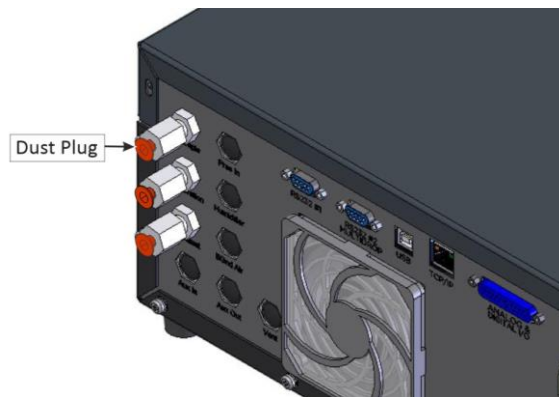

Figure 26 – Dust Plugs
5. Seal each pneumatic port with a dust plug (refer to Figure 26).